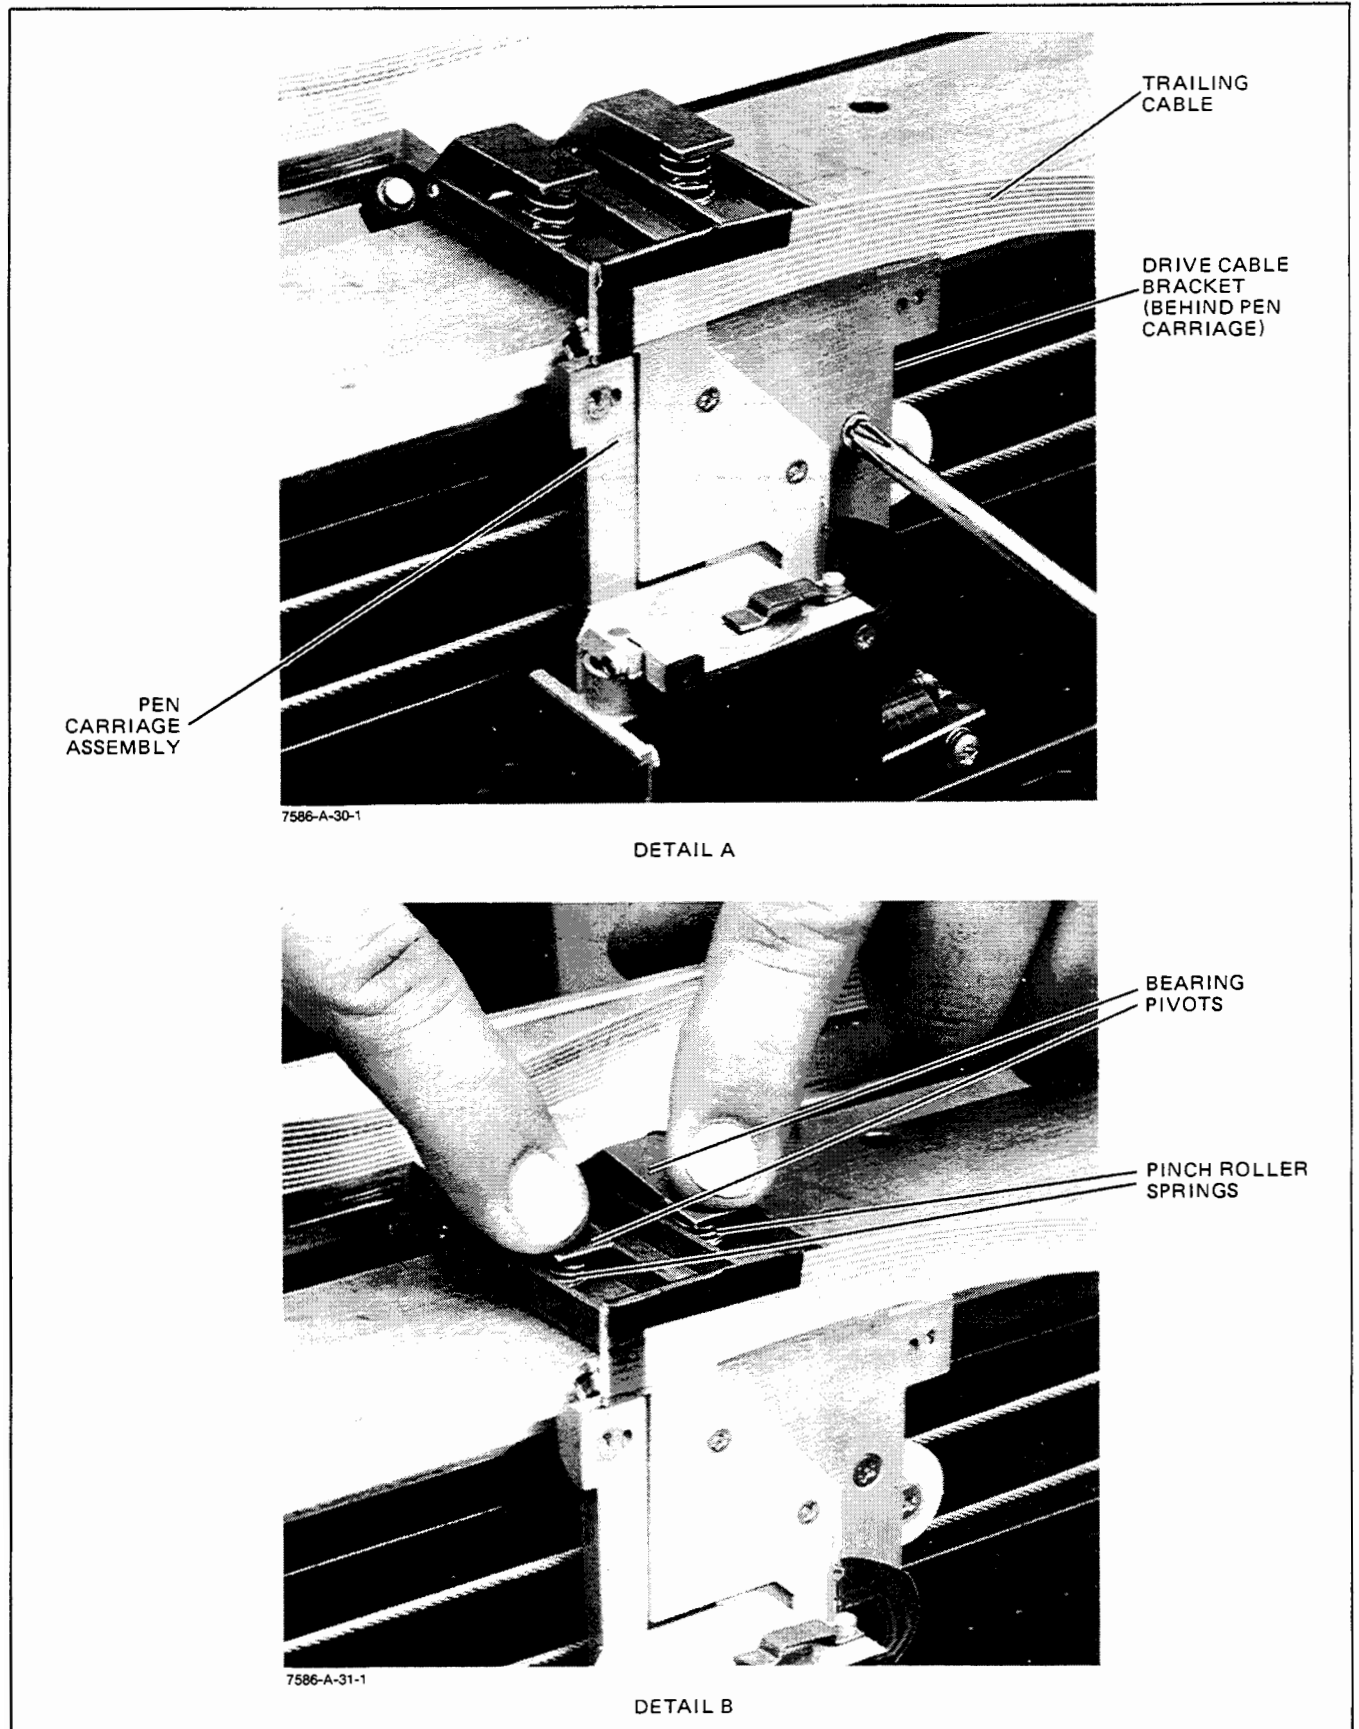

Figure 6-10. Pen Carriage Replacement
- i. Remove the two screws securing the pen carriage to the drive cable bracket as shown in Figure 6-10, Detail A.
- j. As shown in Figure 6-10, Detail B, compress the two pinch roller springs which apply pressure to the two bearing pivots on top of the carriage. Rotate the carriage forward slightly and remove it from the Y-arm.
- n. Align the pen carriage with the drive cable bracket and install the two mounting screws as shown in Figure 6-10, Detail A.